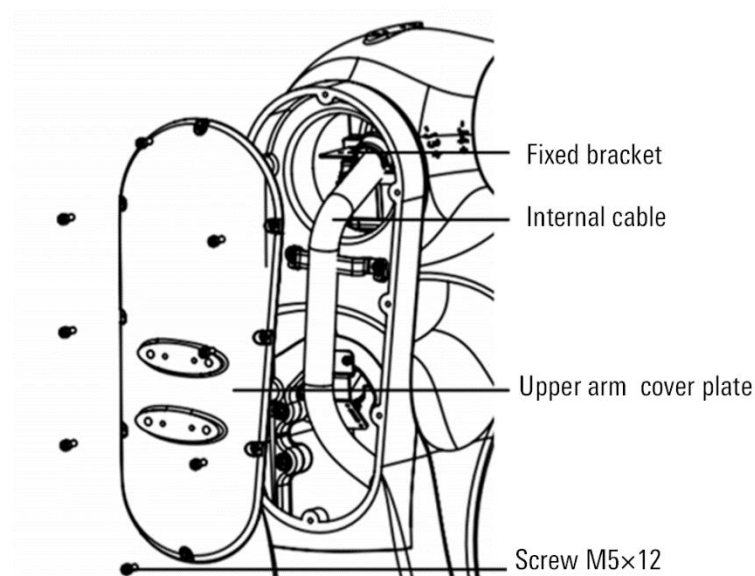

Figure 12-3 Check and repair the upper arm internal cable
- Step1. Remove the cover plate, as shown in Figure 12-3.